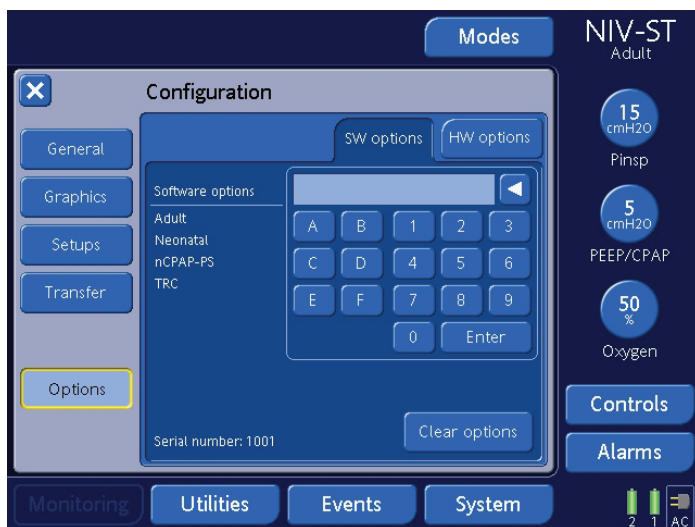
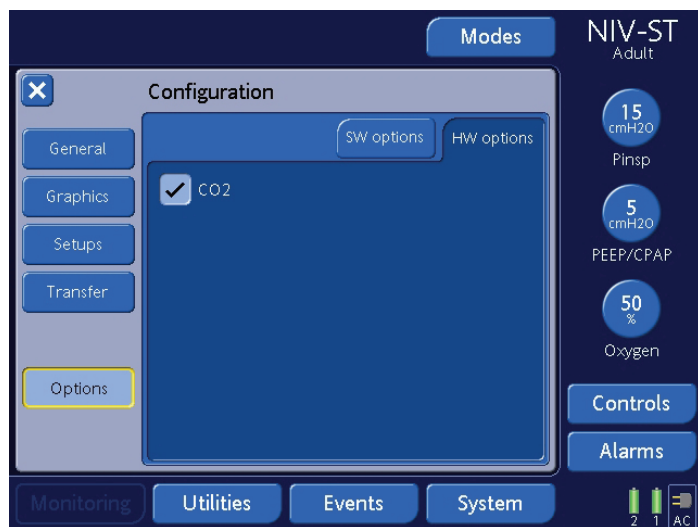

Figure J-13. Software options window
Figure J-14. Hardware options window
1. Select **Software** or **Hardware** options in the **Options** window to get information about the implemented software or hardware (Figure J-13 and Figure J-14).